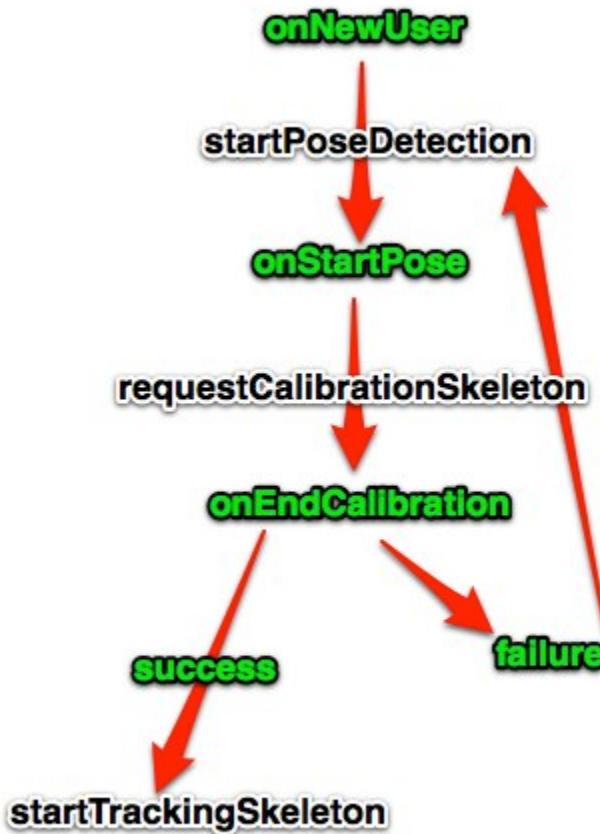

Figure 4-1. Flow of OpenNI actions and callbacks needed to initiate joint-tracking.
Before we get into the nitty gritty of code, I want to give you an overall picture of how calibration works. That picture is represented by Figure 4-1. That diagram shows the flow of callbacks triggered by OpenNI and the actions that we have to take within them in order to continue the calibration process. I'll briefly explain the complete picture and then we'll dive into the actual code within our sketch to see how the whole system works in practice.
- ③ If calibration failed, `succeeded` will be false and we'll go into the else branch of the if-statement. What we do there is restart the calibration process. We call `kinect.startPoseDetection("Psi", userId)` to tell OpenNI to restart the process of checking to see if the user is in the calibration pose. If you look back at Figure 4-1 you can see that, in the case of failure, the calibration process becomes a loop. It jumps back to the pose detection phase and then continues again. When the user assumes the calibration pose (or if they are still holding it), then our `onStartPose()` function will get called again and if we keep the process going eventually `onEndCalibration()` will as well. However if we don't instruct the user to move around or otherwise attempt to correct the problem, it is unlikely that the calibration process will achieve a different result. For that reason, it is once again a good idea to give the user some visual feedback or instructions to make sure that they are fully visible within the depth image and standing still so that the calibration process has a chance to succeed.